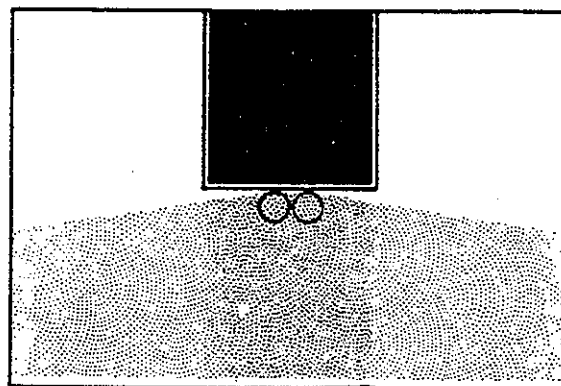

FIGURE 23 - ADJUSTING SPREAD PATTERN
Pattern: (Figure 23)
Adjust Material Divider per (C) above first. Then adjusting the divider to a wider position (moving back plate rearward) will throw material to the outside of the pattern. Adjusting to a narrower position (moving back plate forward) will throw it to the center. See Figures 23 and 24.